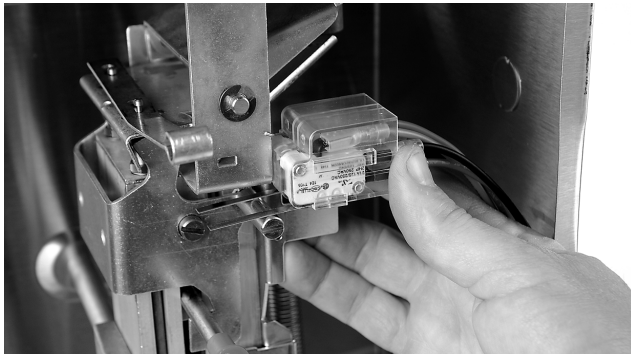

FIGURE 2
2. Slide switch cover onto the upper tab of the switch mounting bracket, ensuring that the tab slides into the channels on the back side of the switch cover, until the screw holes line up. See Figure 2.